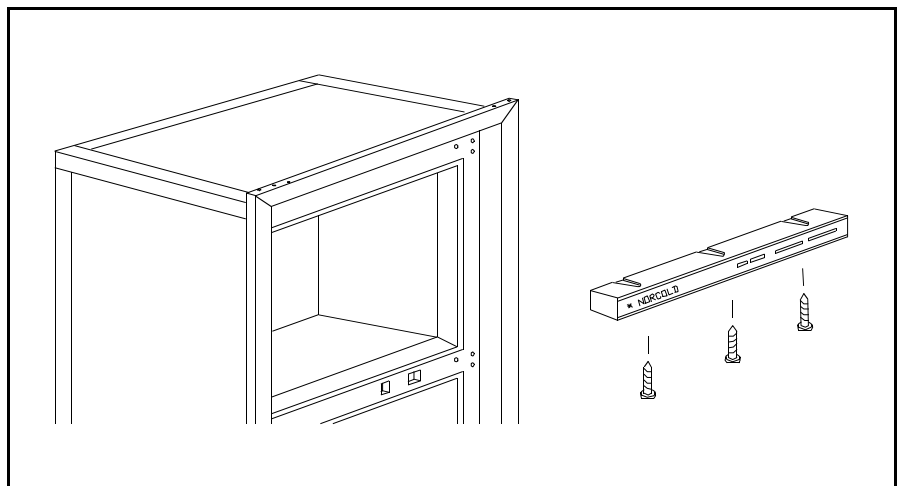

Figure 5.47 Eyebrow Removal
- Remove the screws shown in Figure 5.47 and pull the Eyebrow assembly away from the refrigerator.